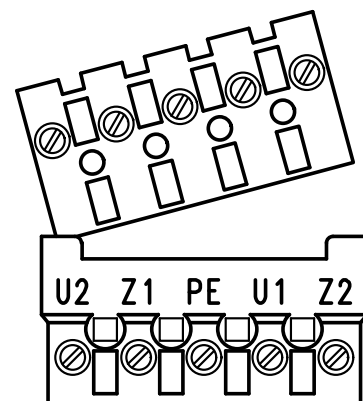

Fig. 2: Motor Terminal Rail
- Pull out 5 - pol. motor plug Z2/U1/Z1/U2 and PE (**Fig. 2**)